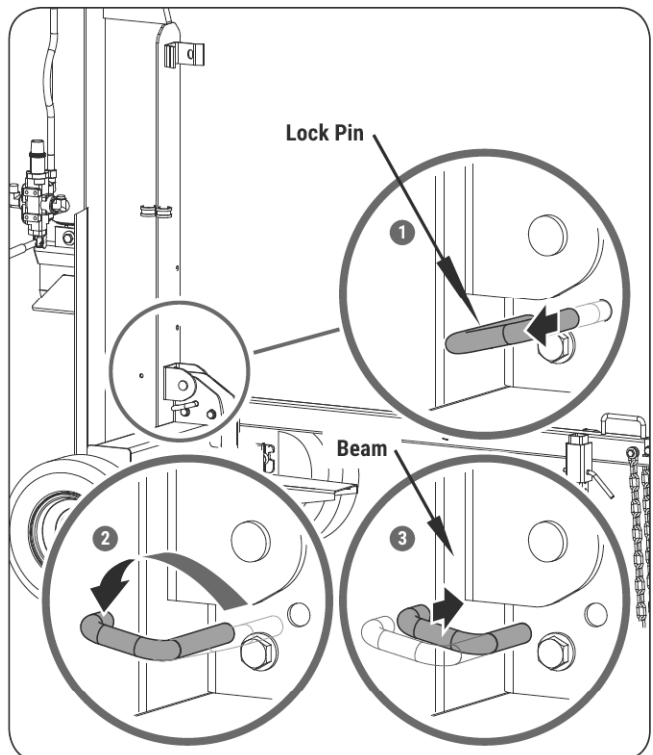

Figure 8c
4. Pull the lock pin and rotate the lever to hold the beam. (See **Figure 8c**.)